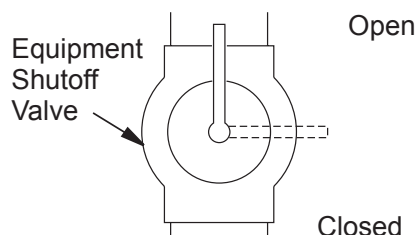

Figure 14 - Equipment Shutoff Valve
1. Close equipment shutoff valve (see Figure 14).
1. Open equipment shutoff valve (see Figure 14, page 14).